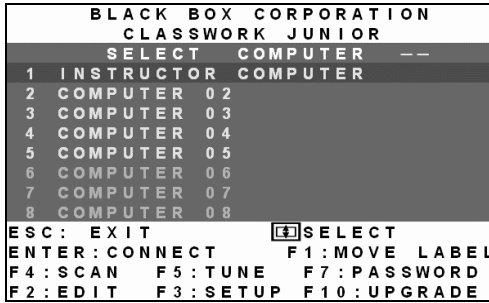

Figure 4-4 The Select Computer window
1. On the Supervisor keyboard, press **Shift, Shift**. The OSD appears. See Figure 4-4.